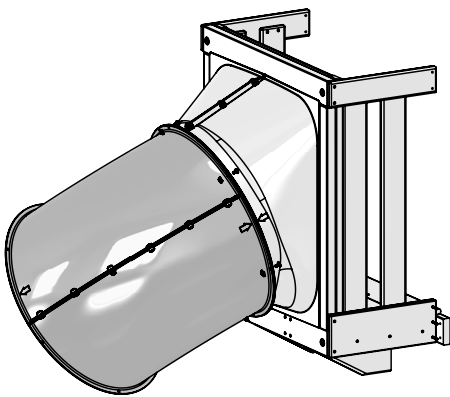

Fig. 26.2
**B:** Attach one of the Elbow assemblies to another Elbow Assembly making sure to line up the arrows on each assembly. Attach 6 (1/4 x 12.7)mm Pan Bolt with Square Lock Nut. Repeat this instruction for 2 more. (fig. 26.2 and 26.3)